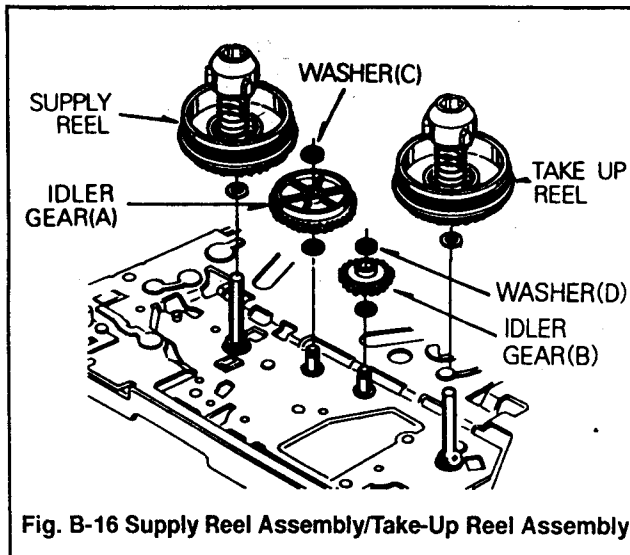

Fig. B-16 Supply Reel Assembly/Take-Up Reel Assembly
16. Supply Reel Assembly(Fig. B-16)
17. Take Up Reel Assembly(Fig. B-16)
18. Idler Gear(A), (B)(Fig. B-16)